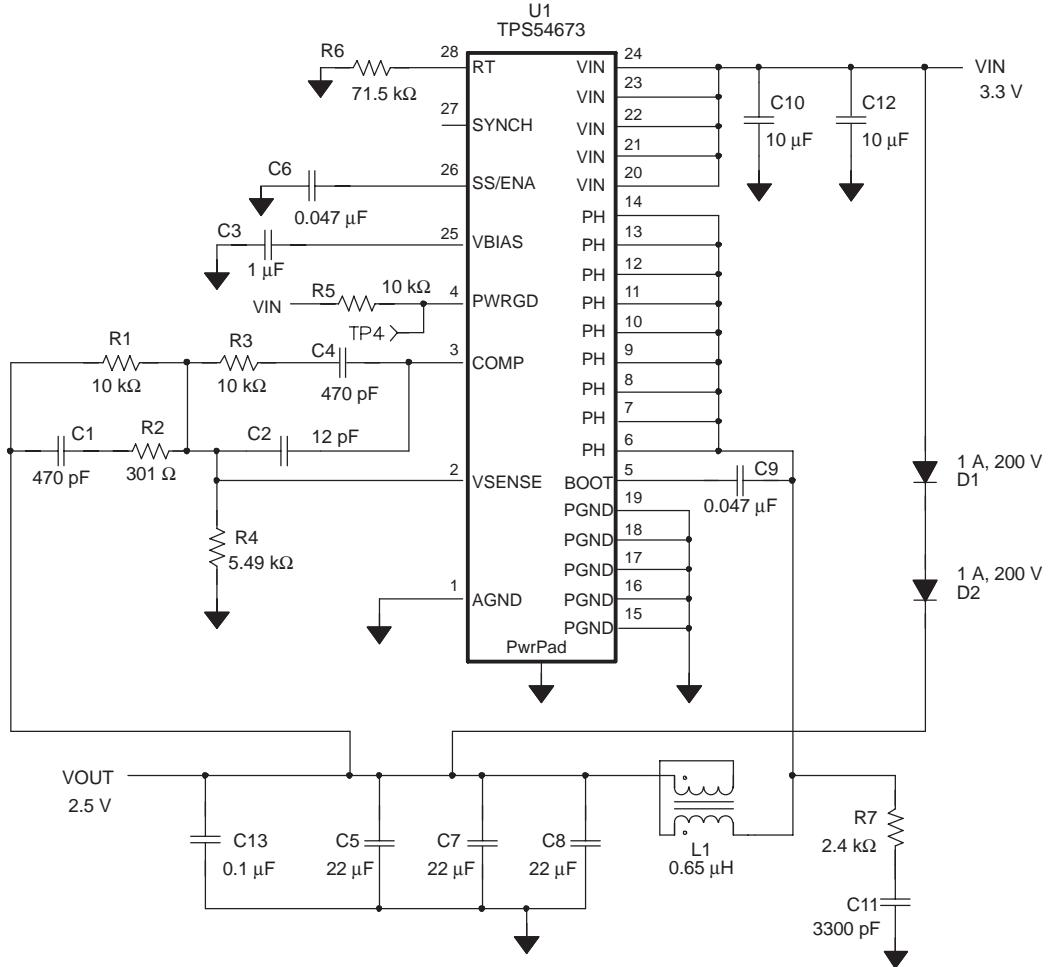
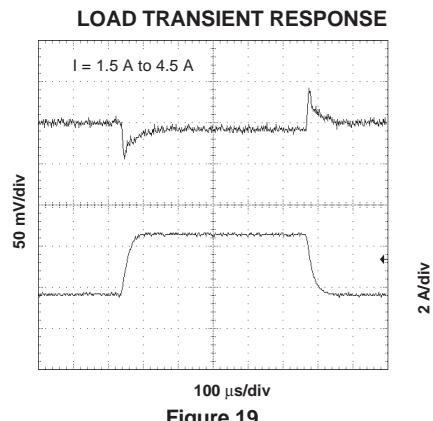

Figure 10. Application Circuit
Figure 19
(1) Specified by design
(2) Static resistive loads only
(3) Specified by the circuit used in Figure 10
(4) Matched MOSFETs low-side r_{DS(on)} production tested, high-side r_{DS(on)} specified by design
Figure 10 shows the schematic diagram for a typical TPS54673 application. The TPS54673 (U1) can provide up to 6 A of output current at a nominal output voltage of 0.9 V to 3.3 V, and for this application, the output voltage
Data shown is for the circuit in Figure 10 with precharge disabled (D1 and D2 removed) except for slow-start timing of Figure 19. All data is for $V_I = 3.3$ V, $V_O = 2.5$ V, $f_s = 700$ kHz and $T_A = 25^\circ\text{C}$, unless otherwise specified.